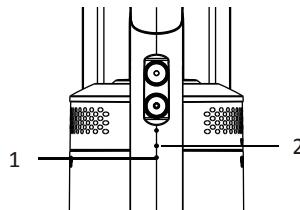

Fig. 2
3. The light indicator shows the status (Fig 2):
- Light indicator 1(Fig 2) will flash when the battery is running low and needs to be recharged. If recharge is not commenced, the vacuum will power off.